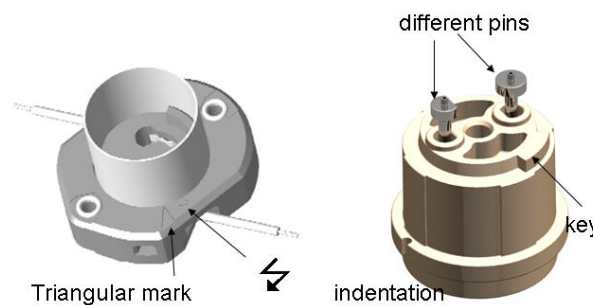

Figure 2.3 PGZ18 lamp base and holder
CDM Elite MW is designed on a PGZ18 lamp holder (see Figure 2.3). In case of an open rated luminaire, a protected version of CDM Elite MW need to be used, in combination with the PGZX18 lamp holder. Currently, one supplier is available: Bender & Wirth (<http://www.bender-wirth.com>). The lampholder is available with a pillar terminal (Pillar terminal 0.75 - 1.5mm²). This lamp-holder combination is designed for the CDM Elite MW system with the following properties:
- The lamp base has pins with different shapes and diameters (see Figure 2.3), such that it can only be inserted in the lamp holder in one unique way. This implies that: